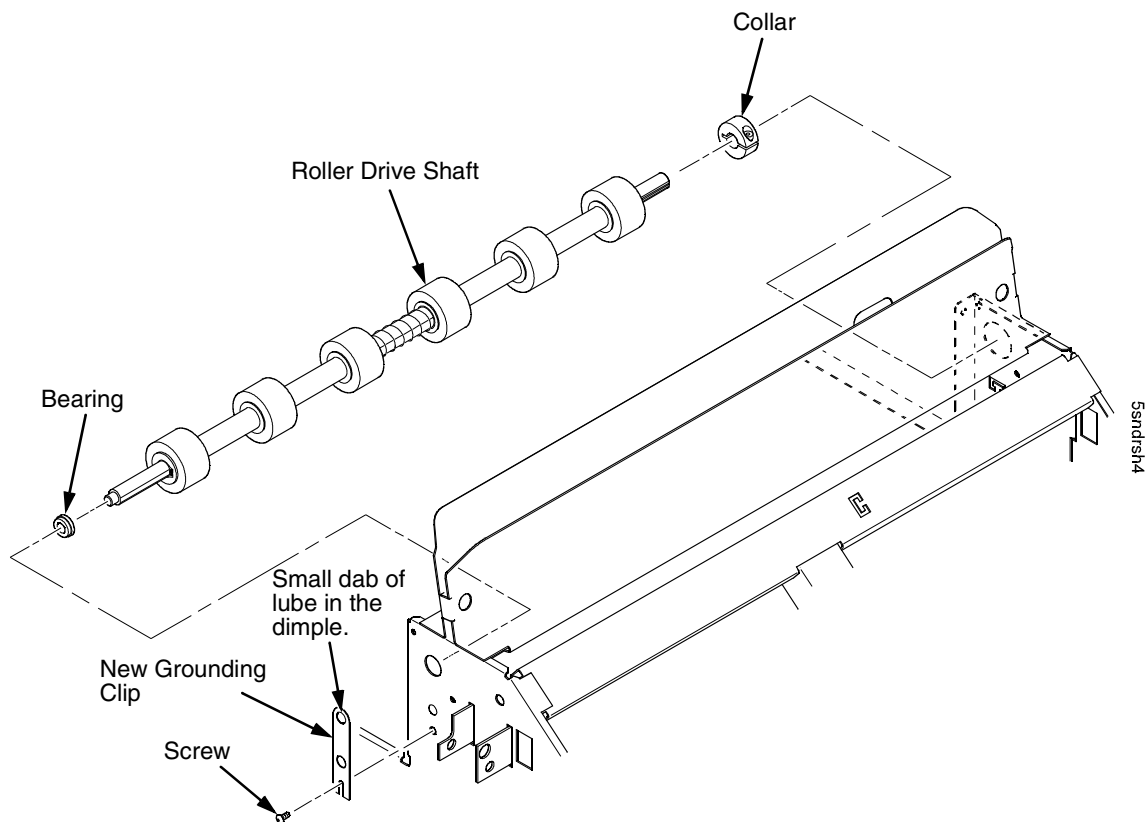

Figure 102. Roller Drive Shaft
9. Remove the roller drive shaft, taking care to retain the bearing at the left end of the shaft and the collar at the right end of the shaft. (Figure 102.)
10. Remove the bearing and collar from the old roller drive shaft and retain these items for installation on the new roller drive shaft. (Figure 102.)
11. Using an M-2 Allen wrench, remove the screw securing the grounding clip to the left side of the elevator. Discard the old grounding clip, but retain the screw so you can install a new grounding clip when you install the new roller driver shaft. (Figure 102.)
14. Apply a small dab of bearing lubricant to the dimple in the new grounding clip. Make sure this is the only area containing lubricant. (Figure 102.)